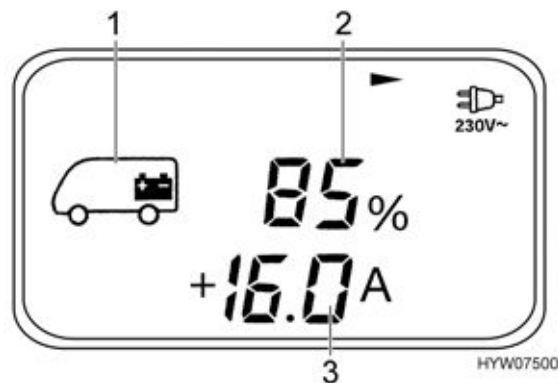

Fig. 125 Battery-menu (living area battery)
■ Press key (Fig. 122,2): the battery-menu (Fig. 125) appears.
- Battery capacity (% or Ah) (Fig. 125,2), charging current (+A) (Fig. 125,3) and discharging current (-A) of the living area battery (Fig. 125,1). To change from % display to Ah display: press "OK" key (Fig. 122,6).
- Voltage (V) of the living area battery and the starter battery (menu page 2)